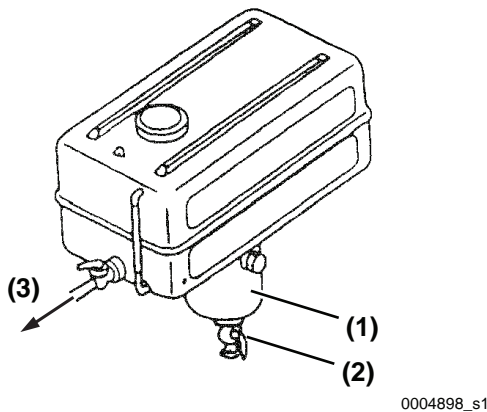

Figure 4-4
1. Put a pan under the drain cock (Figure 4-4, (2)) to catch fuel.